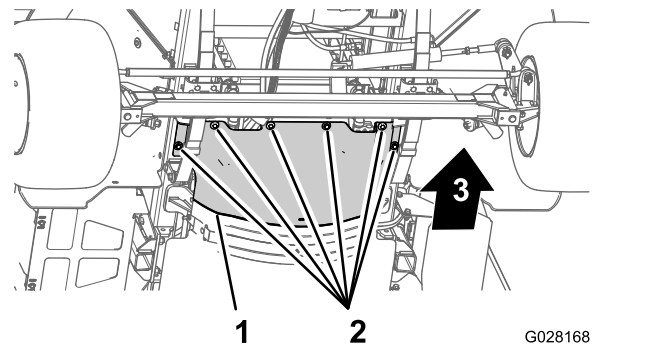

Figure 41
4. Remove the 6 hex-head bolts and 6 washers that secure the front forward heat shield to the chassis and remove the shield (Figure 41).